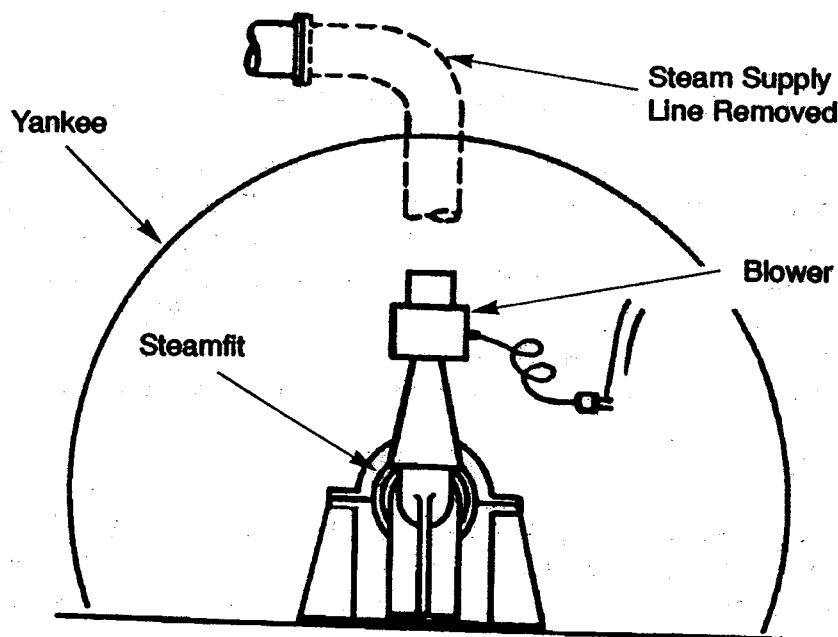

Figure 2. Blower for Cooling Yankee Dryer
3. Withdraw or remove the front steamfit and install a blower to pump cool air into the dryer through the front journal (*Figure 2*).